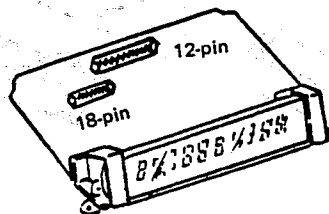

Fig. 18-19
③ Solder the connector QCNCM6846RC0H (8-pin) and QCNCM6846RC1B (12-pin) onto the display P.W.B. unit as shown in Fig. 18-19.